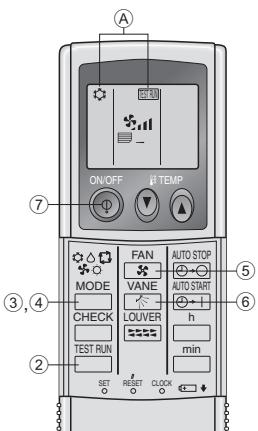

Fig. 7-5
7.2.2. Using wireless remote controller (Fig. 7-5)
① Turn on the power to the unit at least 12 hours before the test run.
② Press the **TEST RUN** button twice continuously.